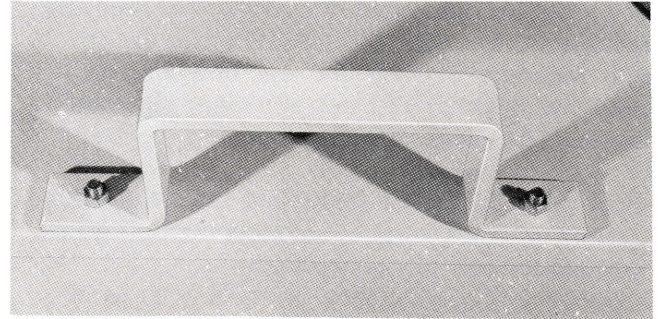

Figure 3
3. Attach the latch bar to the body using the $3/8 - 16 \times 1$ inch screws and nuts. Do not tighten securely. (Figure 3).